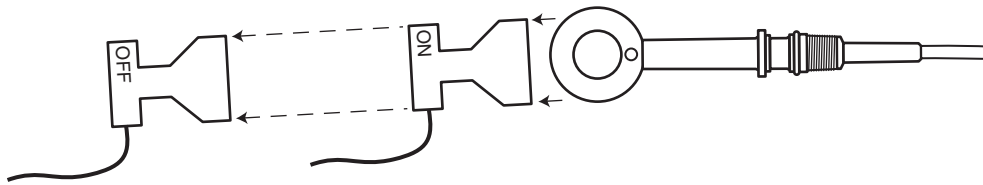

Figure 5.
3. With power to the tool still on, slowly withdraw it from the sensor. Move the tool at least two feet from the sensor. See Figure 5.